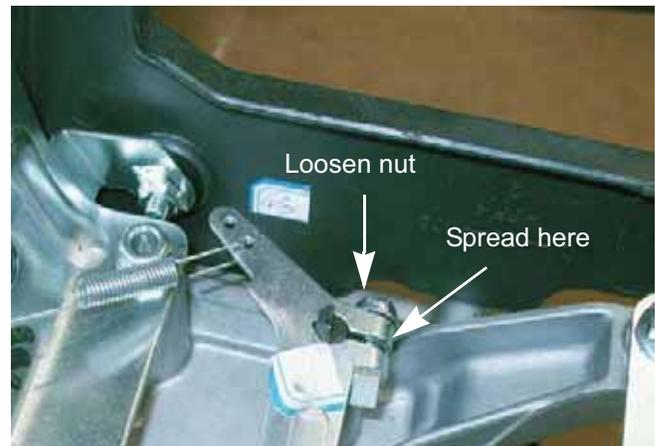

Figure 4.42
3. Loosen the nut and clamp bolt. See Figure 4.42.
2. Slide the arm onto the shaft. The flat on the top of the shaft should be roughly parallel to the arm. See Figure 4.42.